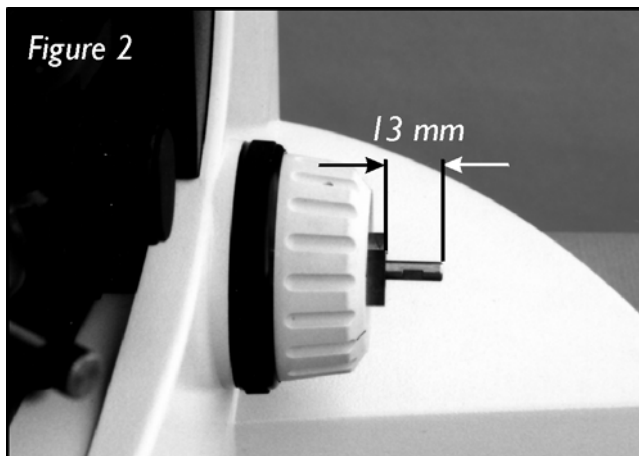

Figure 2
2. Remove the right hand focus knob using the 1.5 mm hexagonal wrench key inserted down the small hole in the right hand fine focus. Hold the left hand fine focus knob when pulling off the right hand fine focus knob ensuring that there is no lateral movement of the shaft. There should be approximately 13mm shaft length protruding from the brass boss (figure 2). Ensure that the small spring washer is still on the shaft.